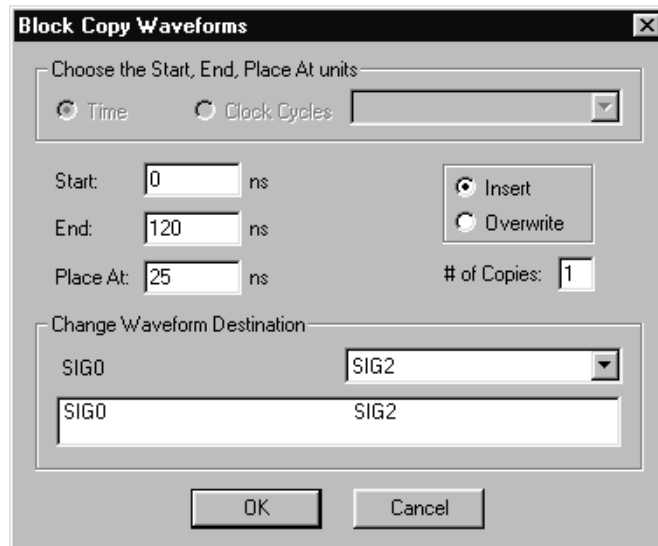

Figure 1.3 Block Copy Waveform dialog box
- Choose the **Edit > Block Copy Waveforms** menu option. This opens the *Block Copy Waveforms* dialog box (see Figure 1.3), with the selected signals displayed in the Change Waveform Destination list box.